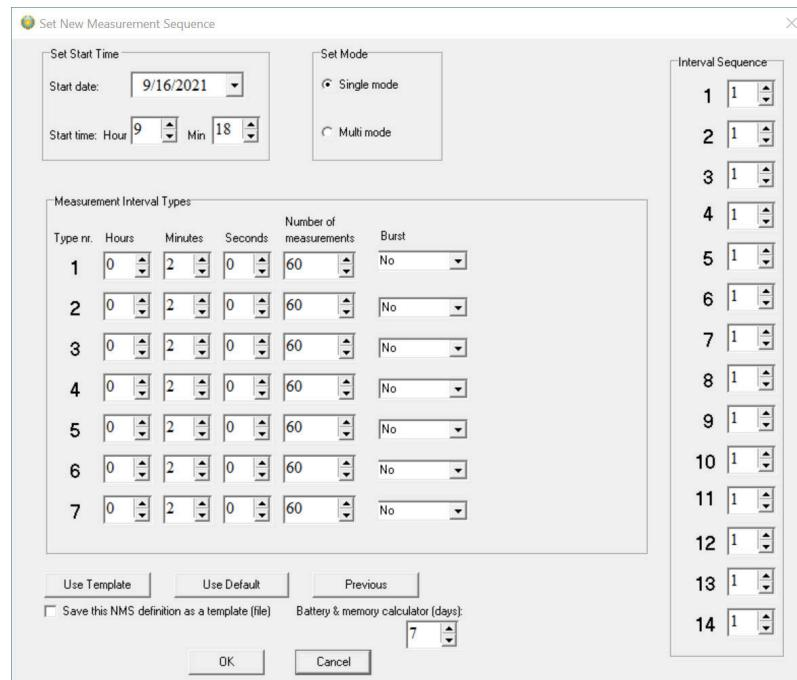

Figure 6.7: Setting new Measurement Sequence (with multiple intervals)
- **Interval Sequence 1-14:** The interval sequence must be filled out. As shown in figure 6.7, the user selects to use intervals 1-7 for the recordings. Another example: Suppose two of the first sampling intervals are used. In that case, the sequence should be 1, 2, 1, 2, etc., meaning that the recordings shift between the first and the second intervals, recording the defined number of measurement for the first interval, and then shifting to the second interval taking the number of measurements defined. The shifting between the intervals repeats until memory is full or until a connection is made through a PC computer.